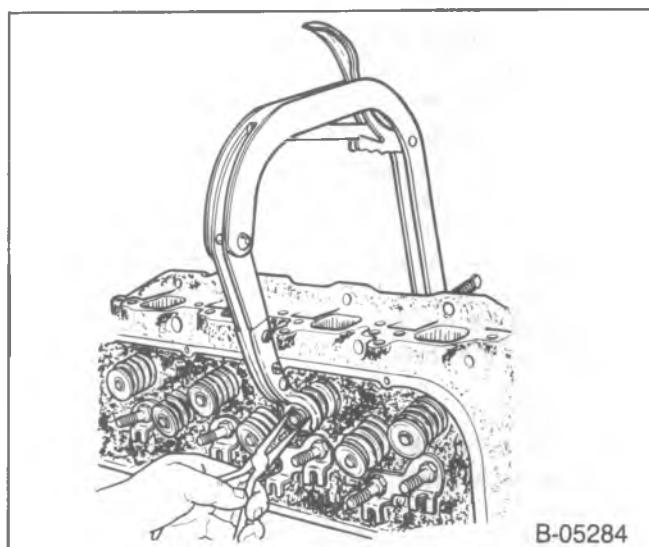

Figure 35—Compressing the Valve Springs
- Valve keys (15).
- Compress the valve springs (19), using J-8062 (figure 35).
- Rotators (17), and shields (18).
- Valve springs (20) and dampers (240).
- O-ring seals (16) and seals (19).
- 4. Valve springs (20) with dampers (240).
- 5. Shields (18).
- 6. Rotators (17).
- 7. O-ring seals (16) and valve keys (15).
- Compress the valve spring, using J-8062 (figure 35). Compress the spring enough so the lower valve stem groove can be clearly seen.